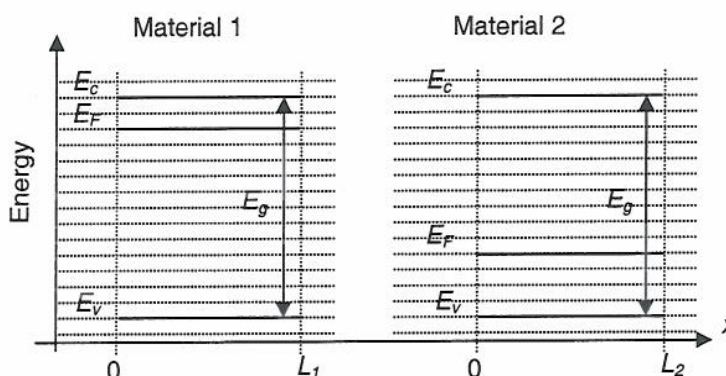

Figure 1: The energy band diagrams of two materials.
- a) Give the doping type of Material 1 and 2 with energy band diagrams given in Figure 1. [4]
- b) Give the relationship ($<$, $>$ or $=$) between the density of the free majority carriers in material 1 and material 2 shown in Figure 1. Explain your answer briefly. [4]
- d) Draw the energy band diagram of Material 1 and 2 of Figure 1 in contact (no bias applied). Make sure the relative widths of the depletion region across the junction are correct [4]